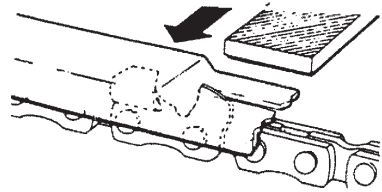

Fig. 39
- 3) Place depth gauge tool on cutter. If depth gauge projects, file it level with the top of the tool. Always file from the inside of the chain toward an outside cutter. (Fig. 39)